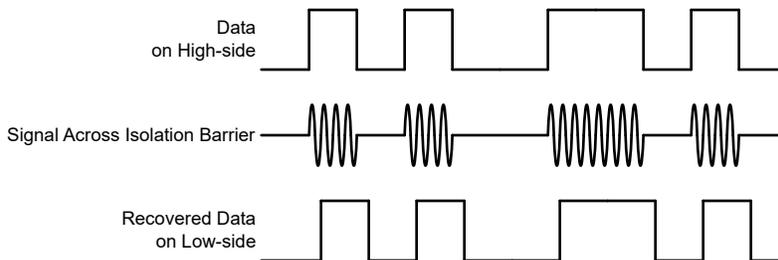

Figure 6-4. OOK-Based Modulation Scheme
The AMC23C11 uses an on-off keying (OOK) modulation scheme, as shown in Figure 6-4, to transmit the comparator output states across the SiO₂-based isolation barrier. The transmit driver (TX) shown in the Functional Block Diagram transmits an internally-generated, high-frequency carrier across the isolation barrier to represent a digital *one* and does not send a signal to represent a digital *zero*.